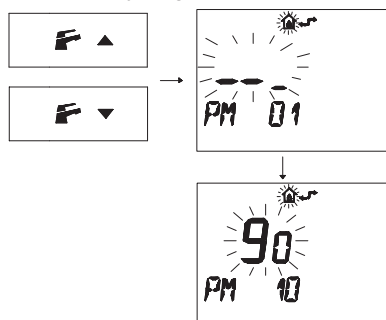

Fig. 8.28
- Press buttons **F** and **▲** or **F** and **▼** to display the "PM10" program for selecting the ignition frequency (Fig. 8.28).
In Fig. 8.28 a SET programmed at **90** is displayed corresponding to a re-ignition time of